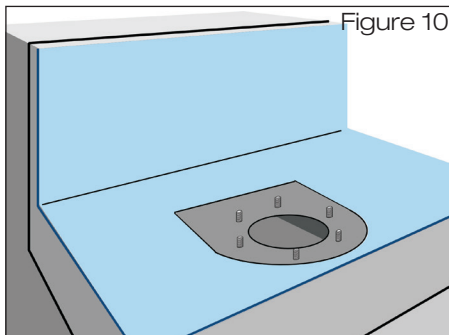

Figure 10
- 3.2 Unroll the **roof sealing sheet** over the scupper drain, and make a cut-out in the region of the fixed flange (Fig. 10).